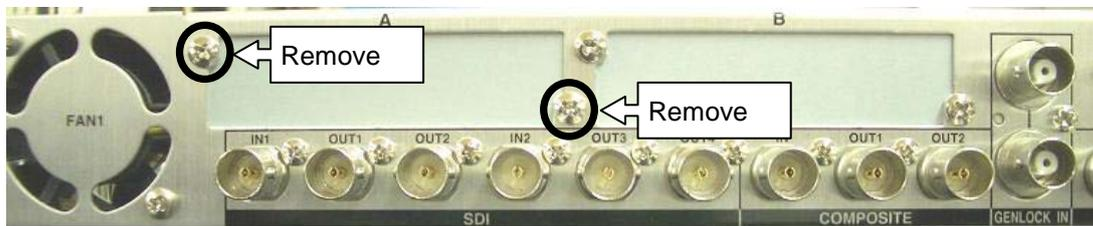

Fig. 10 Blank panel removal
2. Remove the blank panel attached to the slot into which you are going to install the option card. (Fig. 10.)